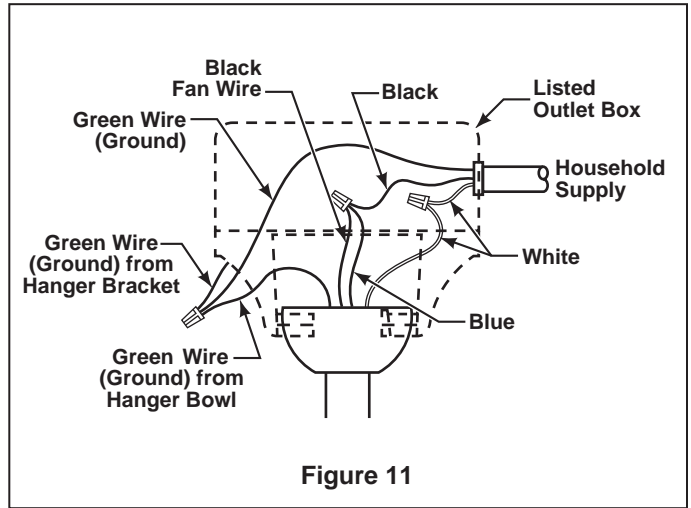

Figure 11
2. Securely connect the white fan motor wire the white supply (neutral) wire using wire connector supplied. Securely connect the black fan motor wire and blue wire to the black supply wire using wire connector supplied (Figure 11). After connections have been made, turn leads upward and carefully push leads into the outlet box, with the white and green leads on one side of the outlet box and the black and blue leads on the other side of the outlet box.